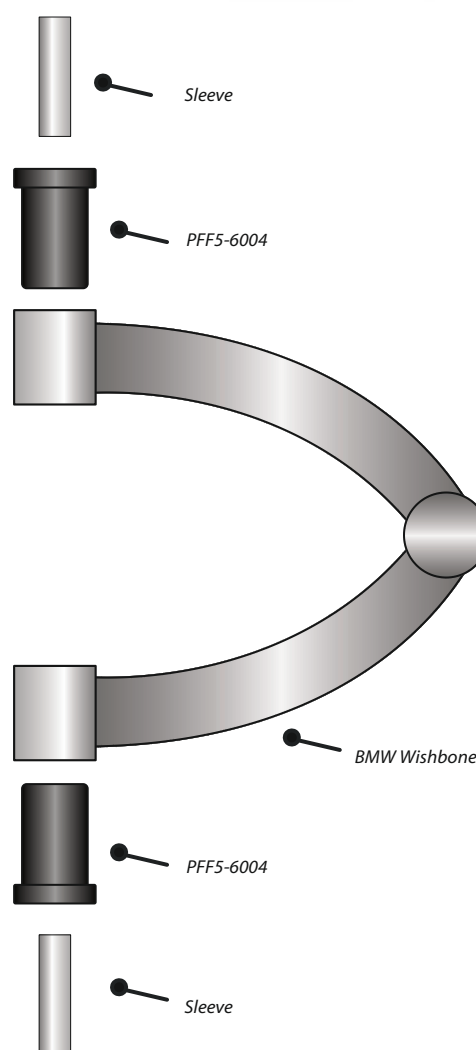

Figure 1
3. Press the Powerflex bushes into the wishbone in the orientation shown in Figure 1.
5. Place a washer on the inside end of the bush as illustrated in Figure 1.